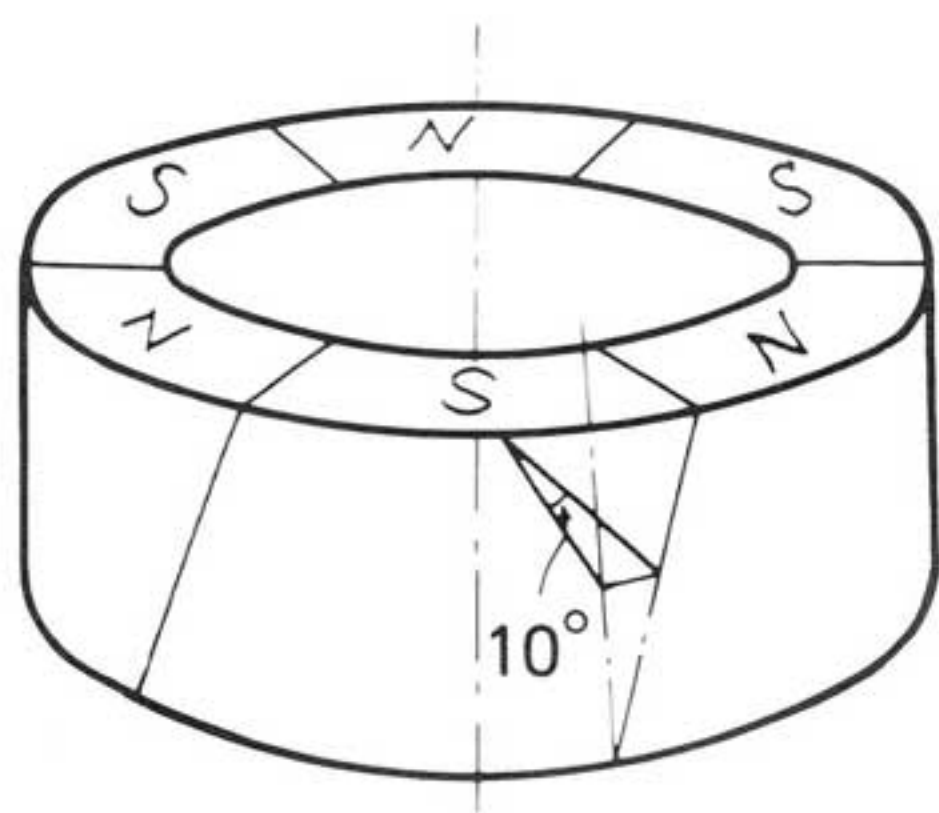

Fig. 13
5. The inner surface of the rotor magnet possesses 6 magnetic poles. As shown in Fig.13, these are tilted by  $22.0^\circ$  relative to the vertical axis.